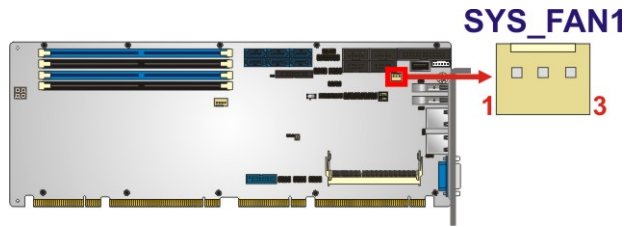

Figure 3-11: System Fan Connector Location
- CN Location:** See **Figure 3-11**